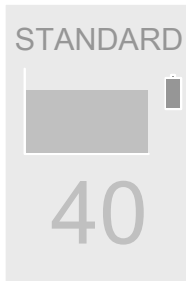

Figure 2
3. When the battery is fully charging, the display of handpiece will glow showing battery full sign. Refer to figure 2.